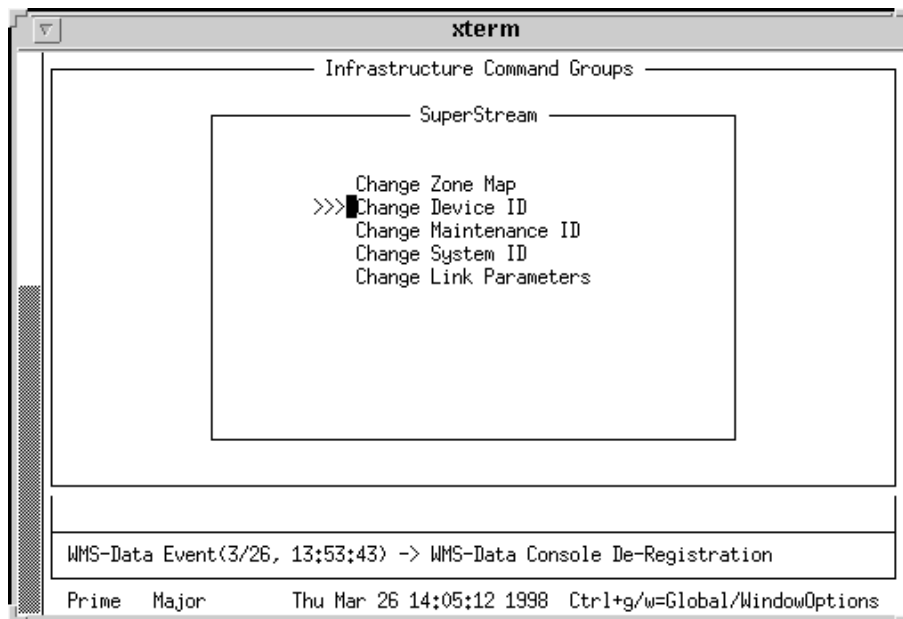

Figure 4-4: SuperStream Menu—Change Device ID
1. From the SuperStream menu, use the <tab> to position the cursor to the left of the listing Change Device ID and press: <Return> (see Figure 4-4).